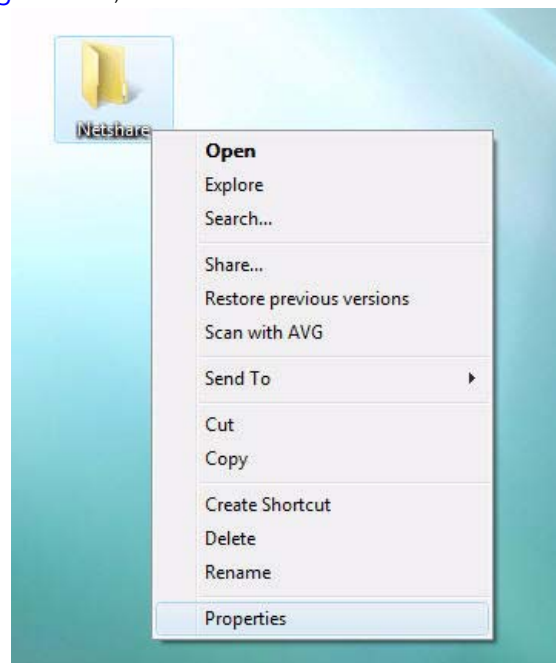
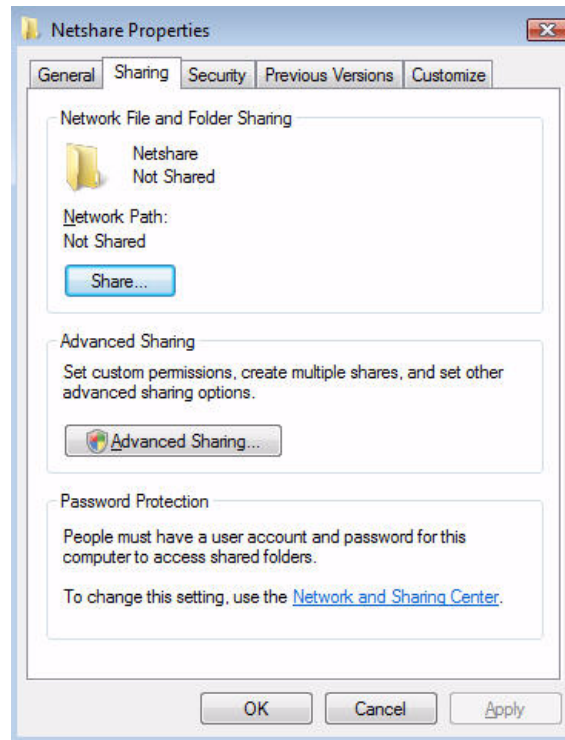

Figure D-12 Right-click New Folder, Select Properties
Figure D-13 Netshare Properties – Sharing Tab
Continuing the example, the new folder created on the Windows desktop was named **Netshare** (Figure D-12).
2. Right click on the new folder, and then select **Properties** as in Figure D-12. Select the **Sharing** tab on the Netshare Properties dialog (Figure D-13).